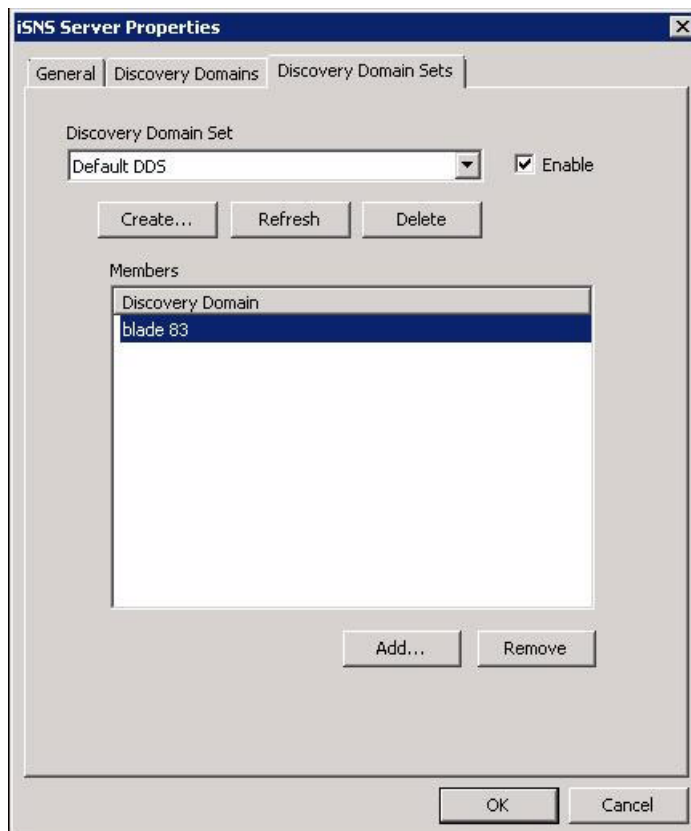

Figure 3-3. iSNS Server Properties: Enabling a Discovery Domain Set
- d. Add this discovery domain to a set, and then enable this discovery domain set, as shown in Figure 3-3.